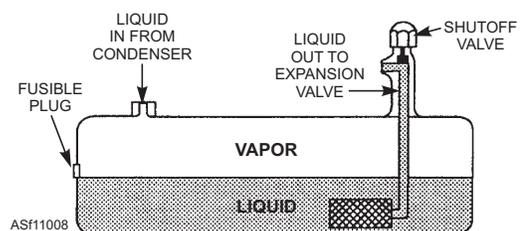

Figure 11-8.—Refrigerant receiver.
The purpose of the receiver (fig. 11-8) is to collect the liquid refrigerant as it leaves the condenser. It serves as a reservoir for the refrigerant and maintains a liquid seal on the liquid line to the expansion valve.
**FUSIBLE PLUG.**—The fusible plug is provided to prevent excessive buildup of refrigerant pressure within the confined area of the equipment. The refrigerants commonly used today act in accordance with normal liquid/gas laws; that is, increased temperature causes increased pressure. Should the air-conditioning equipment be in close proximity to a fire, a positive method of releasing vapor and liquid must be provided to prevent the buildup of excessive pressure within the system. The fusible plug is commonly used for this purpose. The fusible plug is usually threaded into the receiver tank. (See figure 11-8.) When excessive external heat is present, due to fire or other similar causes, the plug melts, allowing the refrigerant gas to escape from the system. The reduction of gas pressure prevents possible rupture or explosion of the equipment. Extreme caution must be exercised if this situation occurs.